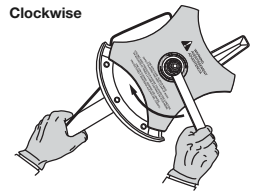

Fig. 21
- Hold the locking rod in place by grasping it next to the boom of the unit (Fig. 21).
- While holding the locking rod, loosen the nut on the blade by turning it clockwise with a 13 mm closed-end or socket wrench (Fig. 21).